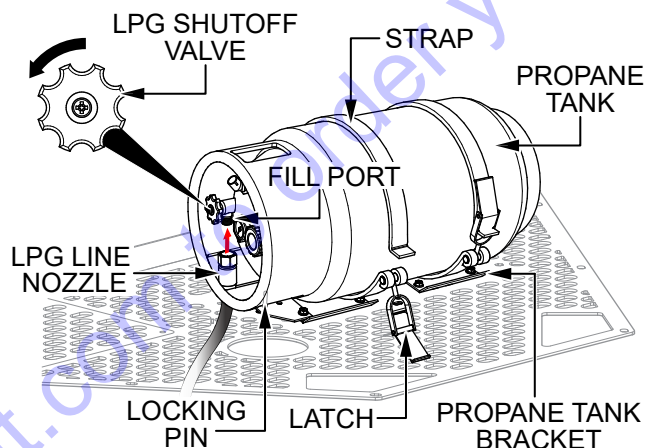

Figure 20. Propane Tank Installation
1. Place a new propane tank onto the propane tank bracket (Figure 20). Align the locking slot with the locking pin on the tank bracket.
2. Secure the latches on the propane tank straps (Figure 20).
3. Connect the LPG line nozzle to the propane tank fill port (Figure 20).
4. Turn the LPG shutoff valve (Figure 20) counterclockwise to open.